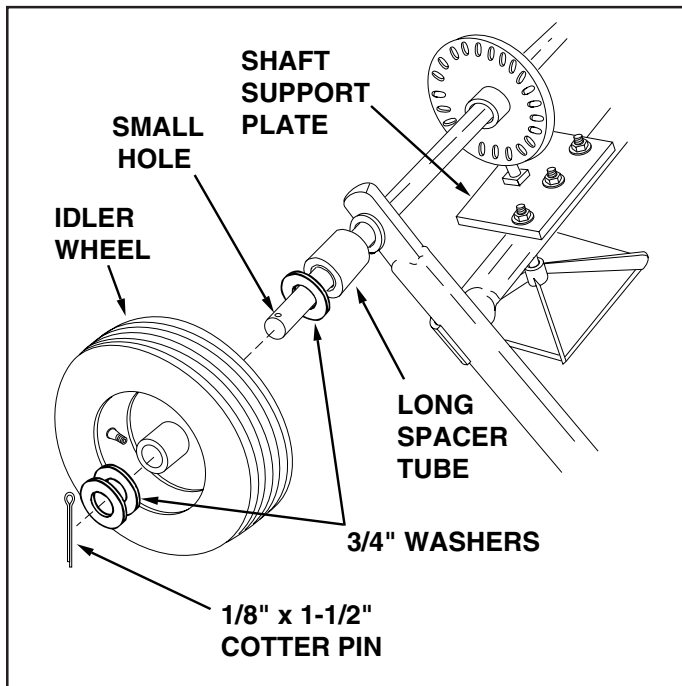

FIGURE 1
- 2. Assemble the long spacer tube and a 3/4" washer onto the end of axle of the axle that has the small drilled hole (right hand side). See figure 1.
- 3. Place the idler wheel (no notch in hub) onto the axle. The air valve should face to the outside. See figure 1.